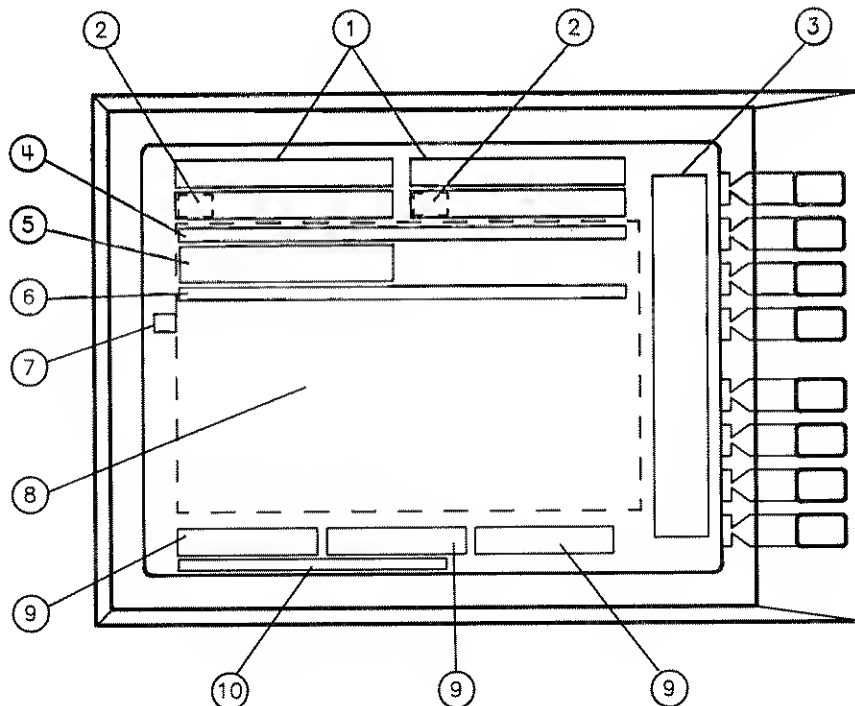

Figure 2. The Analyzer CRT
- Figure 2 is the CRT. It identifies each of the information areas on the CRT.
1. **CRT:** This screen shows measurement annotation, soft key labels, data traces, and other information. See figure 2 for CRT details.
The analyzer CRT is divided into several information areas. See figure 2.